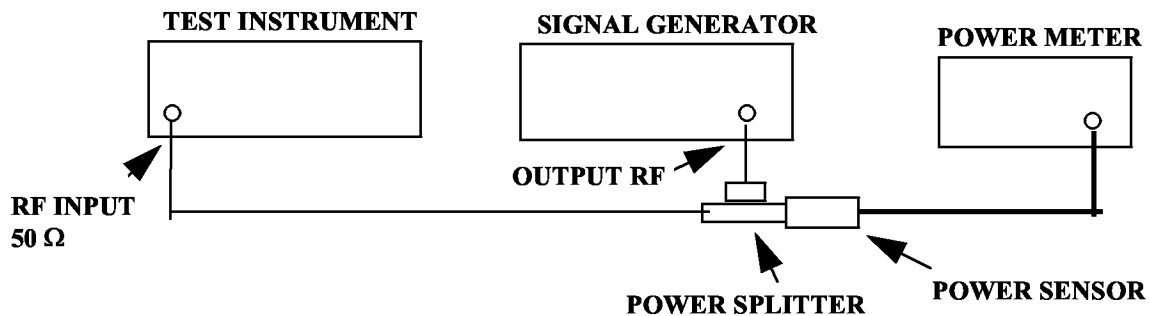

Figure 4. Input sensitivity.
(1) Connect equipment as shown in figure 4.